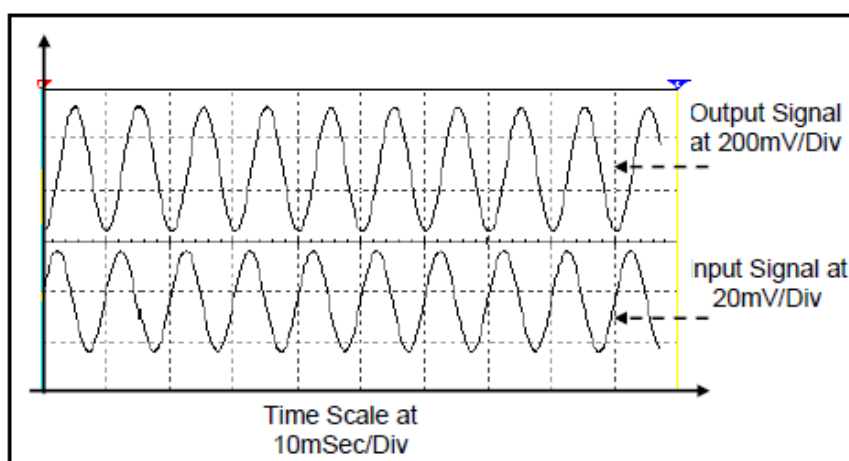

Fig.14 Output and Input Waveforms of a CE Amplifier
- Adjust the VOLT/DIV for Ch.A and Ch.B, hence adjust the TIME/DIV of the oscilloscope; Fig.14.